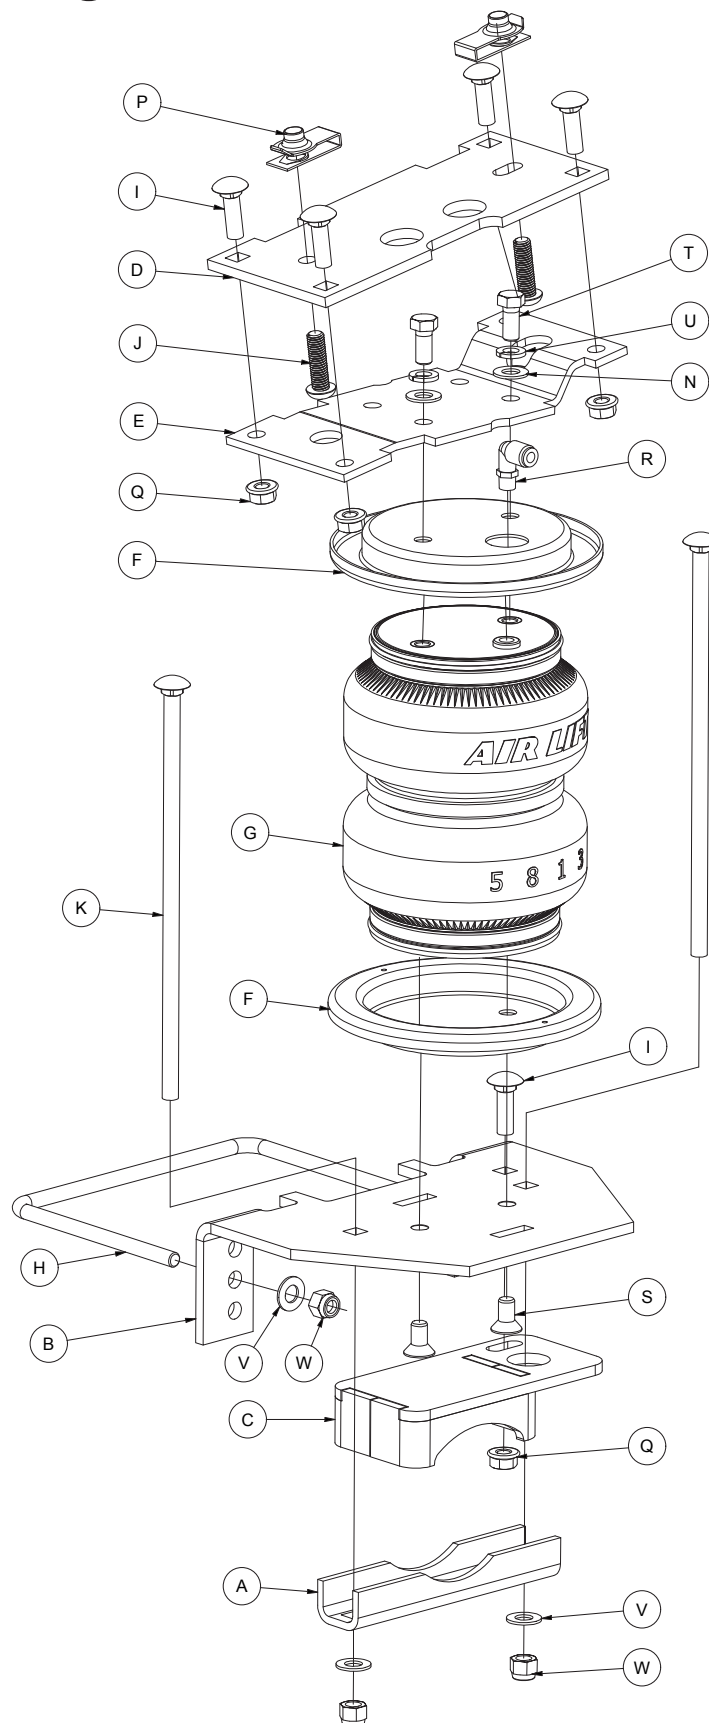

Fig. 1
* These parts are not shown in the Installation Diagram (Fig. 1).